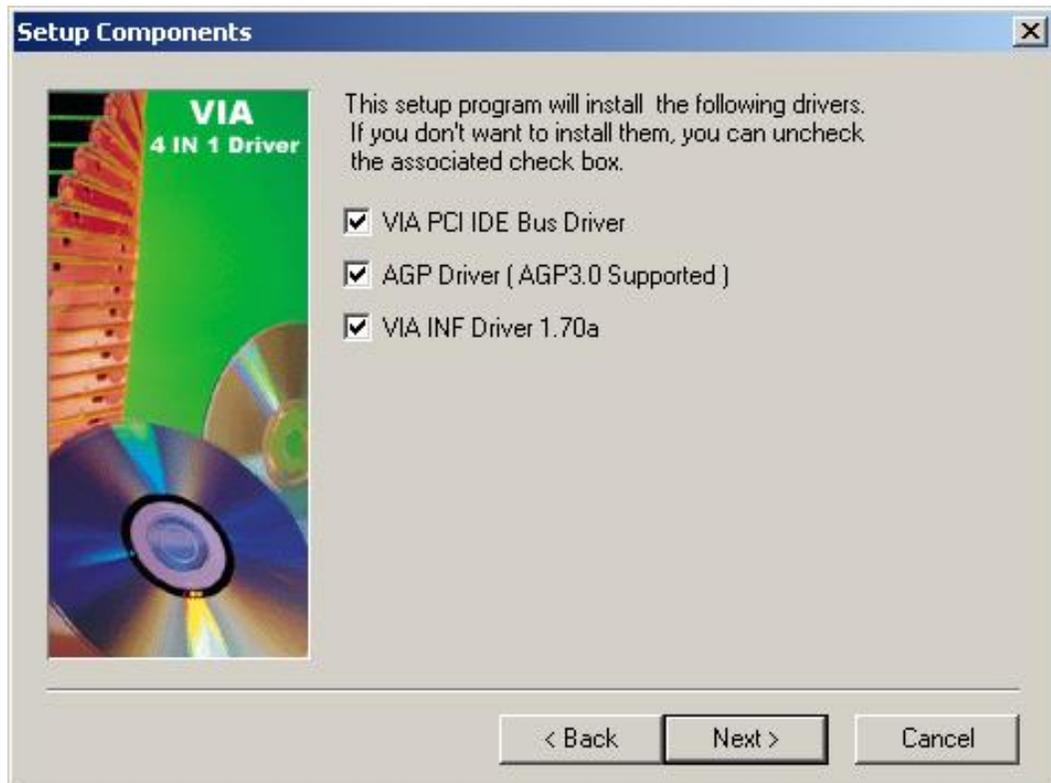

Figure 7-6: Driver Selection
Step 7: Select the setup components (see **Figure 7-6**) that must be installed in the system. There are setup components: